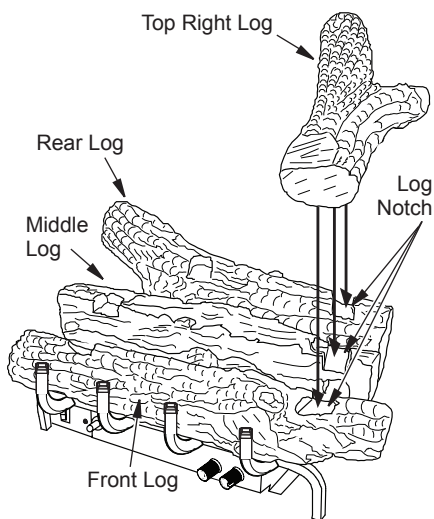

Figure 27 - Installing Top Right Log
4. Place the top right log onto the rear, middle and front logs as shown in Figure 27. The rear, middle and front logs has notches for the top right log to set into. You may have to move the front log from left to right to get it to line up with the top right log.